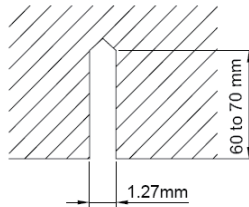

Fig.7
- (2). Install the bolts to the ceiling at a place strong enough to hang the unit. Mark the bolt positions from the installation template. With a concrete drill, drill for 12.7mm (1/2") diameter holes. (Fig.7)